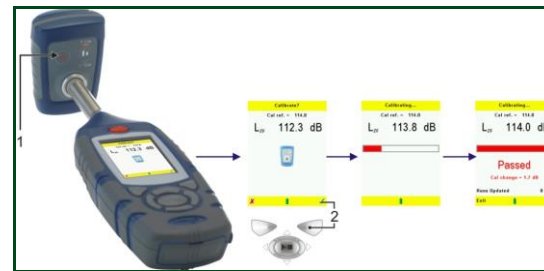

Figure 4 Calibration Screens
**CALIBRATE (Refer to Figure 4)**